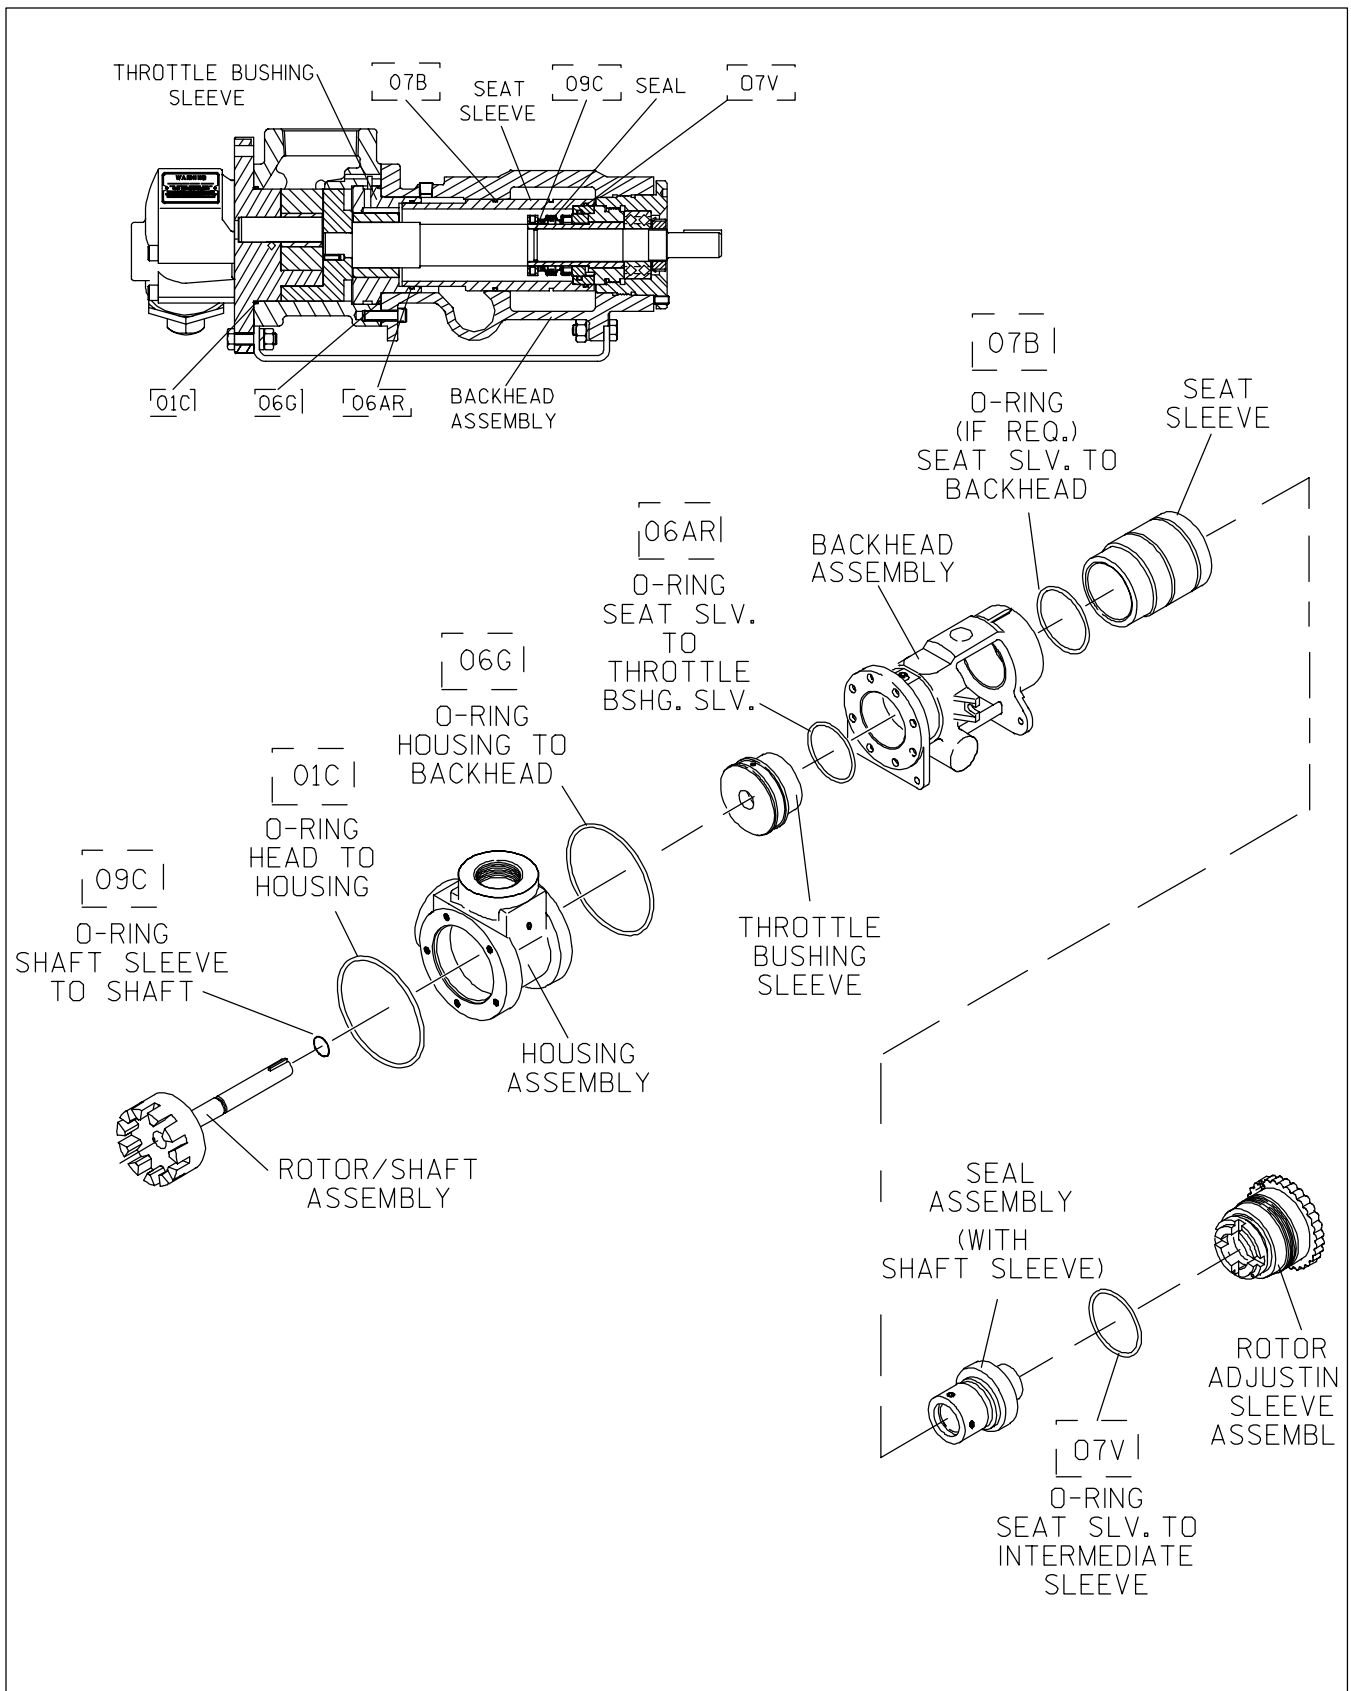

Figure G-1. GHS SST Pump Assembly (Cartridge Seal)
- * FOR O-RING LOCATION, SEE FIGURES G-1 THRU G-4.